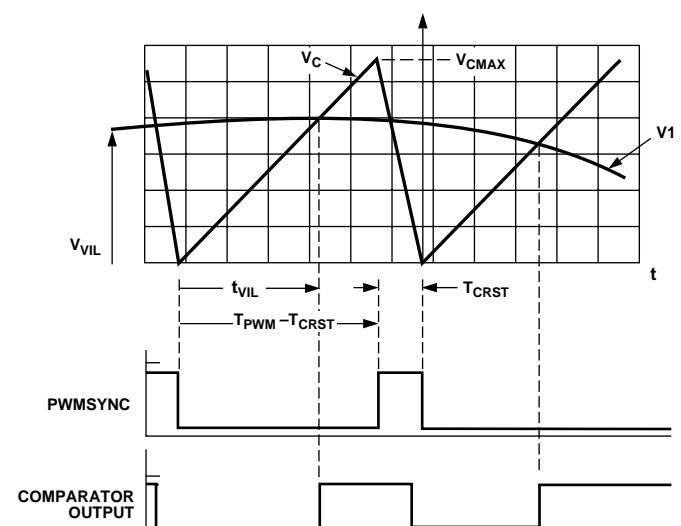
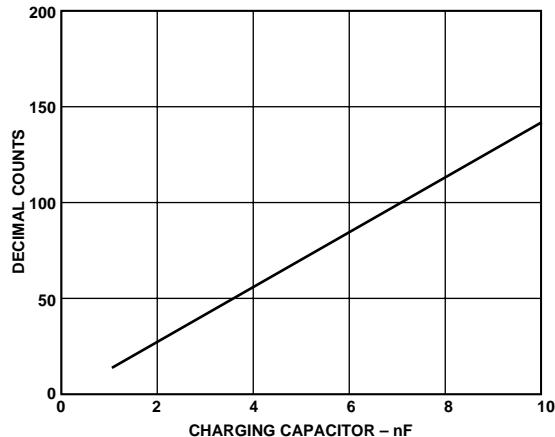

Figure 12. Analog Input Block Operation
Figure 13. PWMSYNCWT Program Value
Comparing each ADC input to a reference ramp voltage, and timing the comparison of the two signals, performs the conversion process. The actual conversion point is the time point intersection of the input voltage and the ramp voltage (V_C) as shown in Figure 12. This time is converted to counts by the 12-bit ADC Timer Block and is stored in the ADC registers. The ramp voltage used to perform the conversion is generated by driving a
Following reset, $V_C = 0$ at $t = 0$. This reset and the start of the conversion process are initiated by the PWMSYNC pulse, as shown in Figure 12. The width of the PWMSYNC pulse is controlled by the PWMSYNCWT register and should be programmed according to Figure 13 to ensure complete resetting. In order to compensate for IC process manufacturing tolerances (and to adjust for capacitor tolerances), the current source of the ADMC326 is software programmable. The software setting of the magnitude of the ICONST current generator is accomplished by selecting one of eight steps over an approximately 20% current range.
2. Program PWMSYNCWT to proper count as in Figure 13.